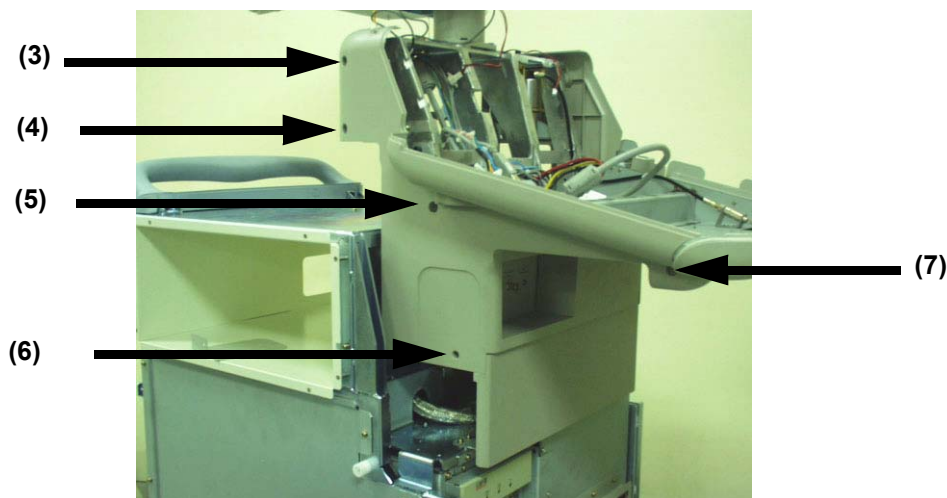

Figure 8-86 Unscrew 5 screws to remove OP L Cover
7.) Unscrew five screws (3-7) and remove OP Side L Cover. Refer to Figure 8-86 on page 8-41 .